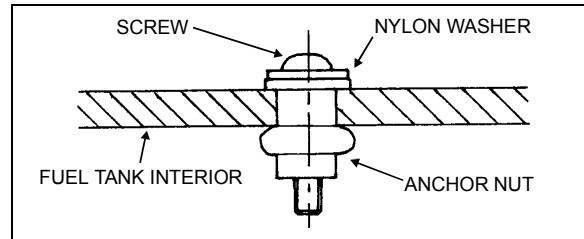

FIGURE 9: FUEL TANK REPAIR 03014
5. Place assembly in drill hole. Tighten screw by 10 complete turns. Refer to Fig. 9.